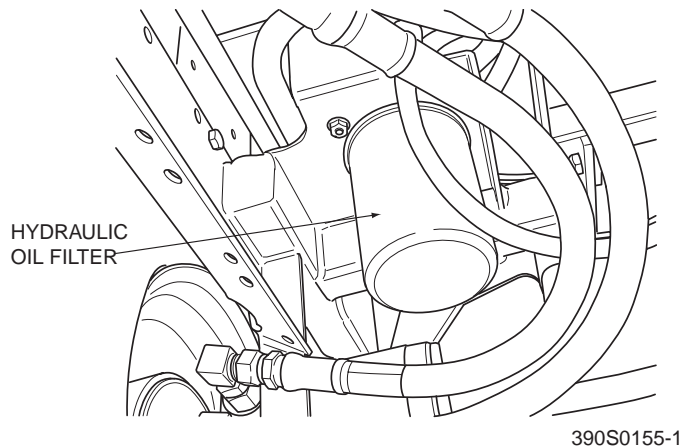

Figure 7-3. Hydraulic Oil Filter
2. Place a suitable container under the hydraulic oil filter. Remove the fill cap from the reservoir. Remove the hydraulic oil filter. (See Figure 7-3). Allow the fluid to drain into the container and properly discard it.
1. Remove the oil filter element (Figure 7-3) and properly discard it. Fill the new filter with clean oil and install the filter. Hand tighten only.